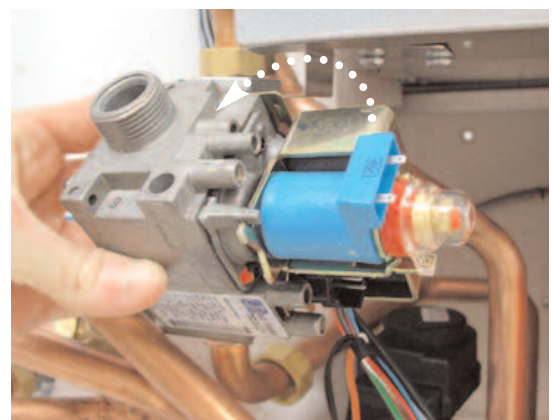

Fig. 18.46
5. Pull the gas valve toward you (see Fig. 18.46);